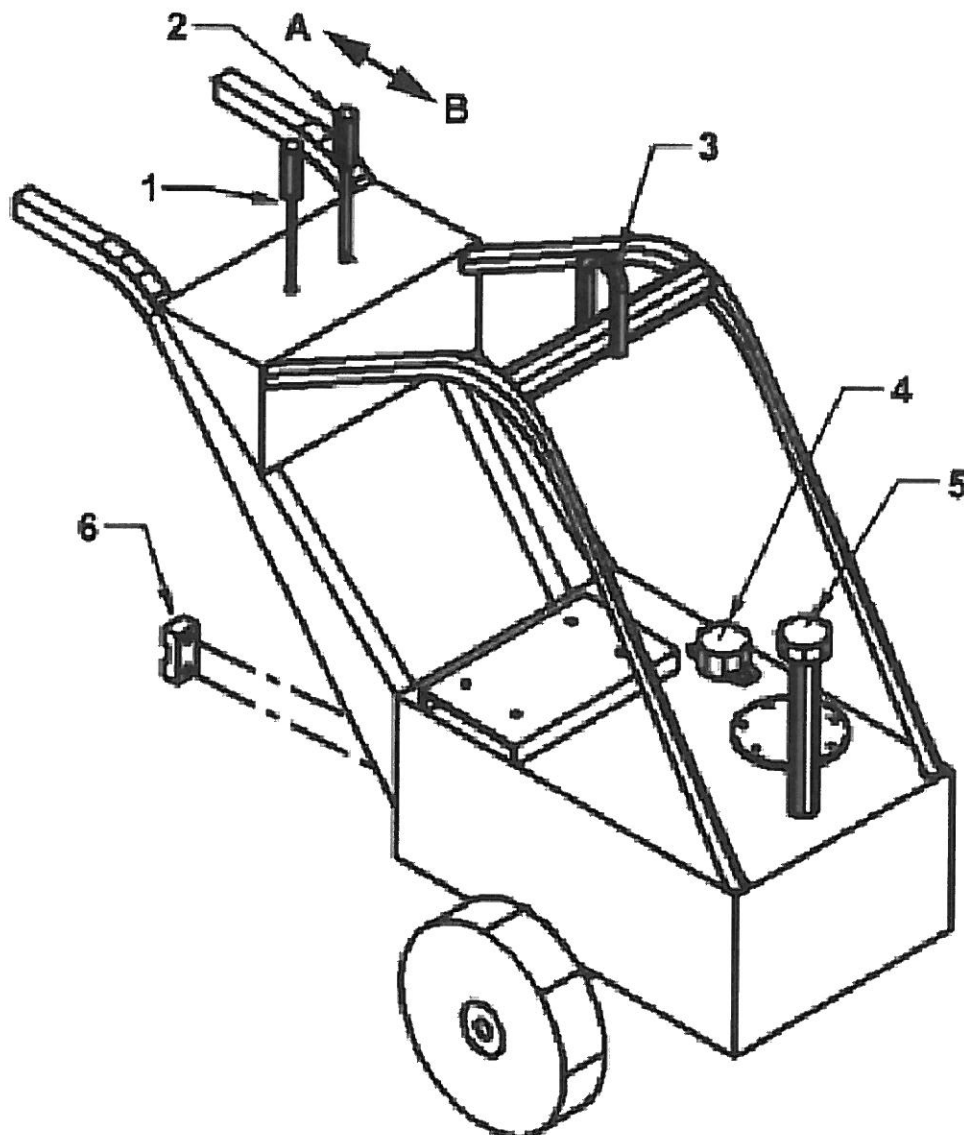

Figure 2
7. You must unwind some cable from the winch, approximately 30 feet so that you can place it in the pulleys. To unwind the cable you must push lever #1 in Fig. 2, on the power unit backwards (Position A) slowly. This will unwind cable. (Have a person help with the unwinding to prevent the cable from tangling)